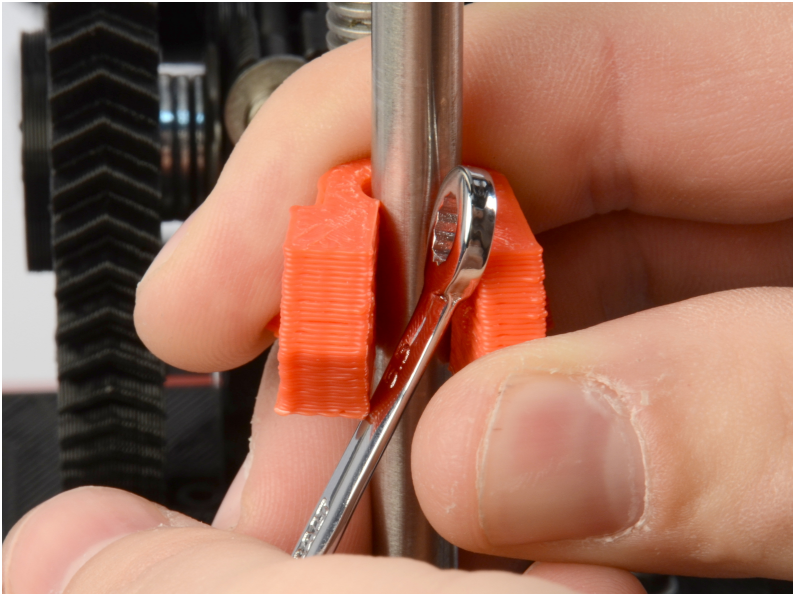

Figure 1.3: Using a wrench to pry off the shipping clamps
11. Loosen and remove the wing nut and screw on each of the four clamps. Remove each of the four clamps by popping them off of the smooth rod. Use a screwdriver or wrench to pry open and remove the clamps if you have trouble removing them by hand (Fig. 1.3, page 14). Keep the clamps and hardware for future use if you need to ship or transport your printer.